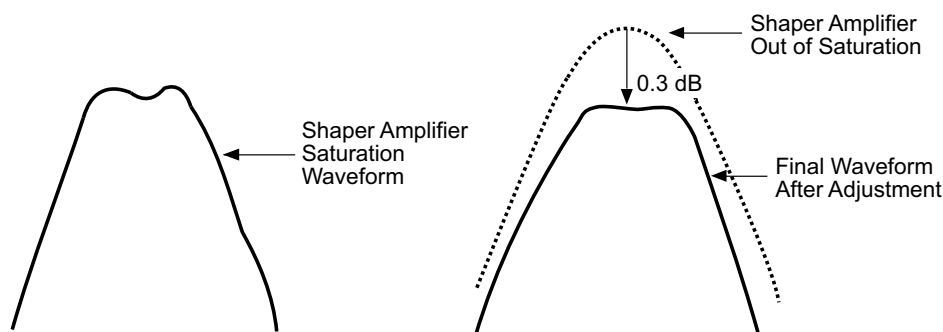

Figure 5-5. Limiter DAC Adjustment Waveforms
- c. Observe the displayed waveform to determine whether the shaper amplifier is being driven to saturation. This is indicated by a dip in the top of the waveform (Figure 5-5).